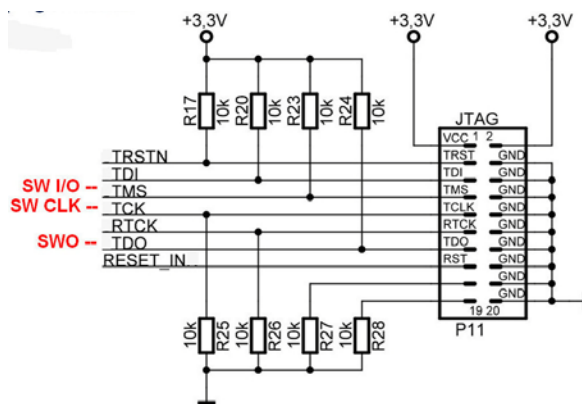

Figure 33: Legacy JTAG Connector showing location of the Serial Wire signals. Top view.
- 2) Click on the Utilities tab. The rear window of Figure 33 opens up.
- 3) Click on Settings. The front window of Figure 33 opens up.
- 4) Under description is the Flash programming algorithm. Figure 33 is correct.
TIP: To program the flash when entering Debug mode, select Update Target before Debugging as shown in the rear Figure 33. If not selected, you will need to program it manually with the Load icon.